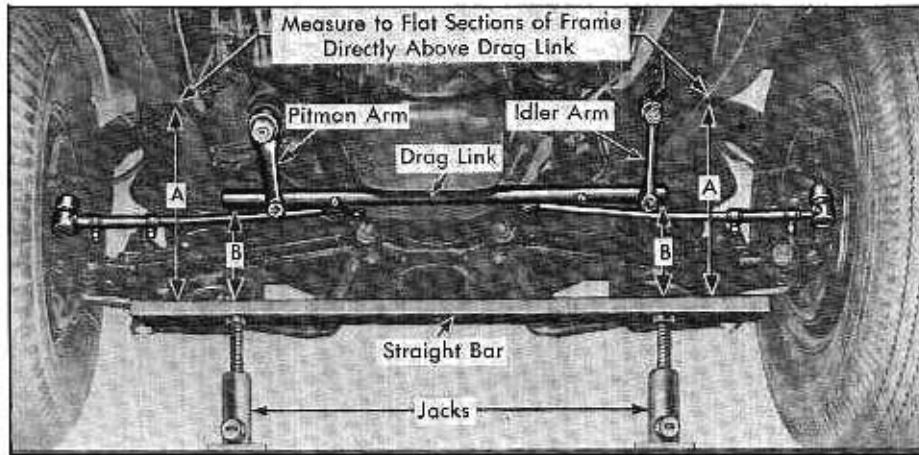

Fig. 7-11 Checking Drag Link to Frame Parallelism
1. Place a straight bar across two adjustable jacks, directly below the drag link. Fig. 7-11.